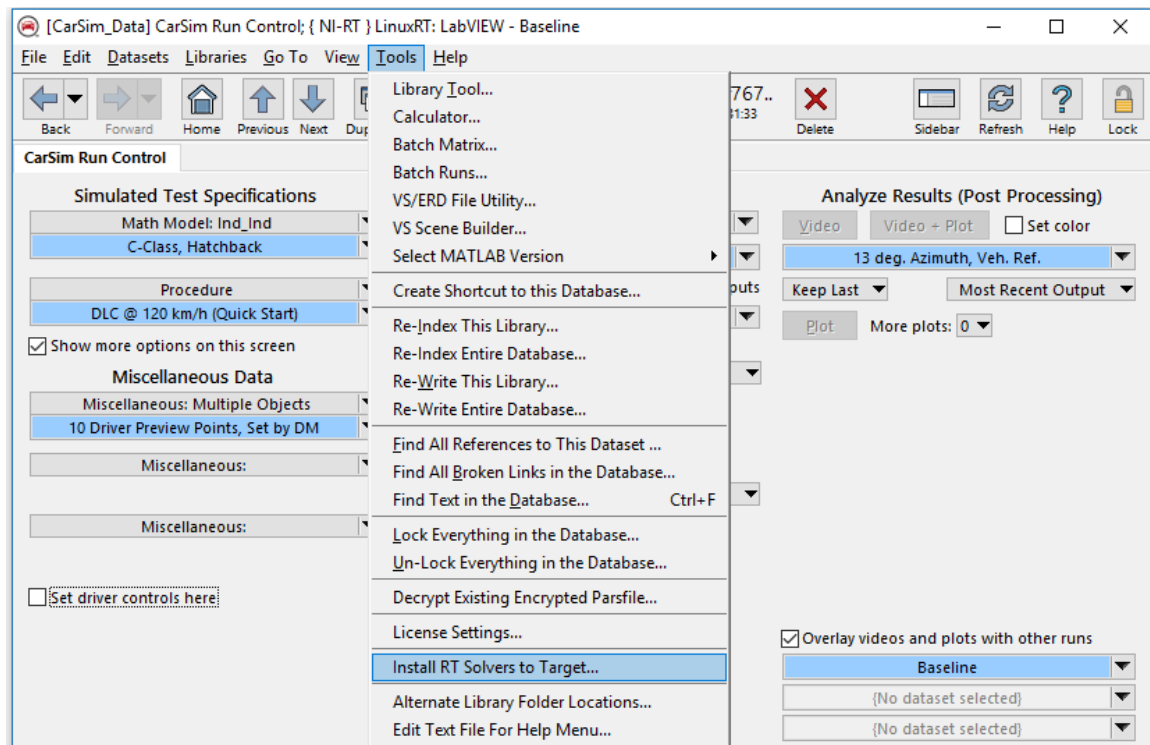
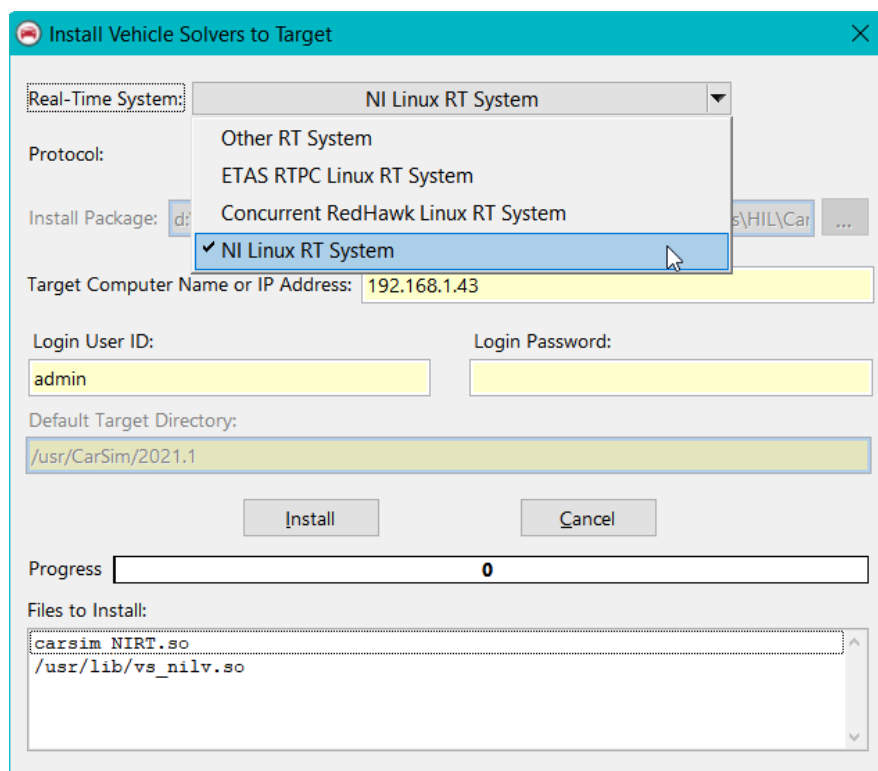

Figure 4. Tools menu: Install RT Solvers to Target.
Figure 5. Select a target RT system to install Vehicle Solvers.
1. Use the CarSim **Tools** menu command **Install RT Solvers to Target ...** (Figure 4). You will see an installation window pop up (Figure 5).